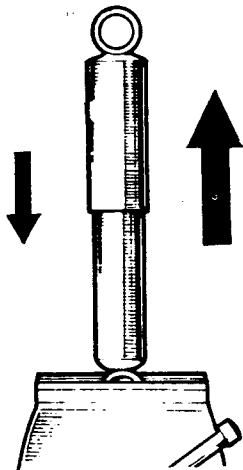

Fig I3.3
(2) Refer to Fig I3.3. Secure the shock absorber vertically in a vice by holding the bottom fixing between the jaws.
(3) The shock absorber incorporates differential damping, having greater resistance on the extension stroke. Check the operation by extending and compressing the shock absorber, there must be a uniform resistance throughout the length of the stroke. If the resistance is erratic or weak, fit a new shock absorber.